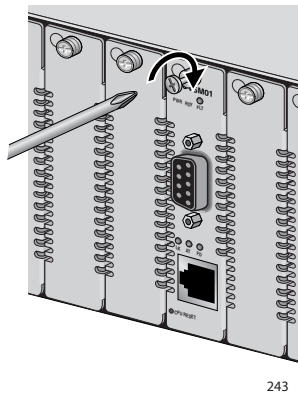

Figure 51. Tightening the Captive Screw
- Secure the AT-CV5M01 Management Card to the chassis by using a Phillips screwdriver to tighten the captive screw on the management card faceplate, as shown in Figure 51.